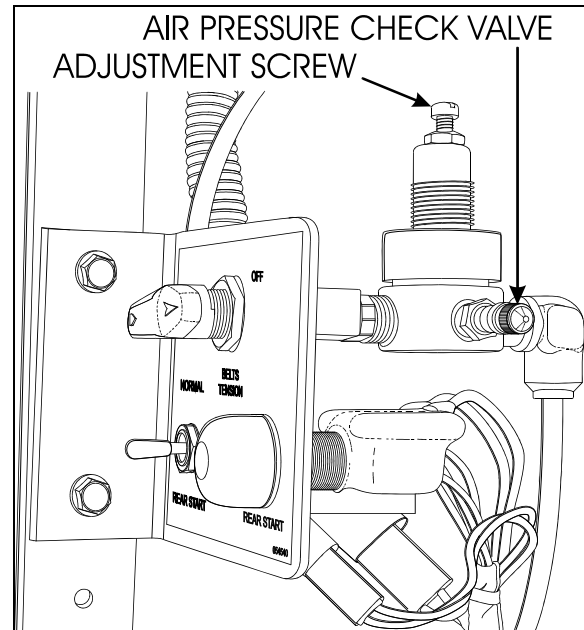

FIGURE 22: TENSIONING VALVE
- Open engine compartment rear doors and locate the belt tensioner two-way control valve (Fig. 22), mounted above the engine R.H. side door next to the pressure regulating valve, then turn pressure handle counterclockwise in order to release pressure and tension on belts.
- Reset belt tensioning pressure control valve (Fig. 22). Pressure is factory set to 50 psi (345 kPa), periodically check proper pressure.